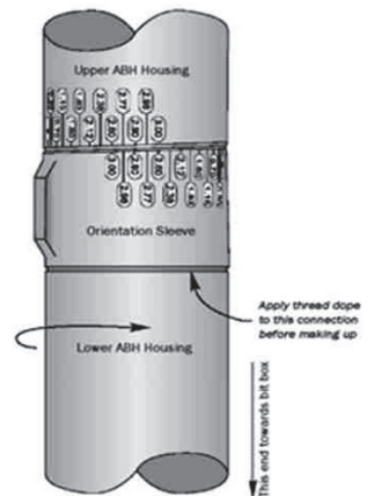

Figure 11
6. Referencing Figure 11 (bottom right), slide the Orientation Sleeve upward so that the interlocking teeth are fully engaged.